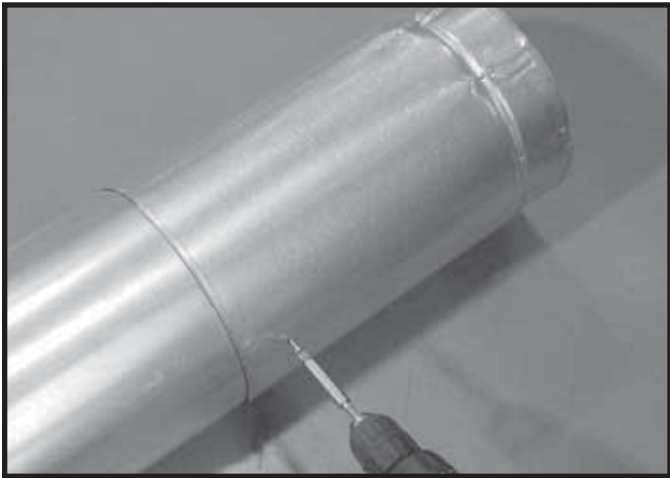

Figure 10.6 Screws into Slip Section
- Secure the pipe and slip section with two screws no longer than 1/2 in. (13 mm), using the pilot holes in the slip section. See Figure 10.6.